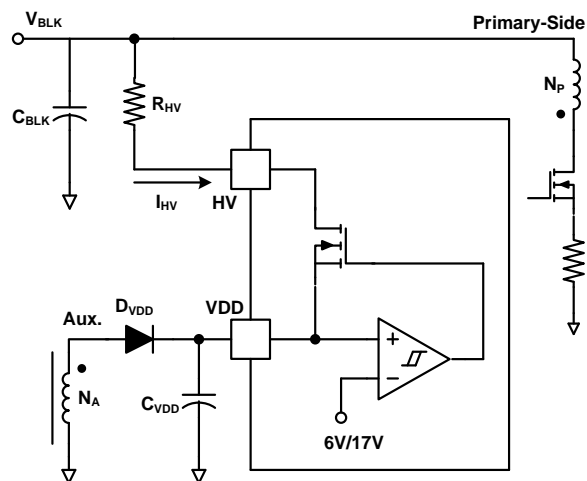
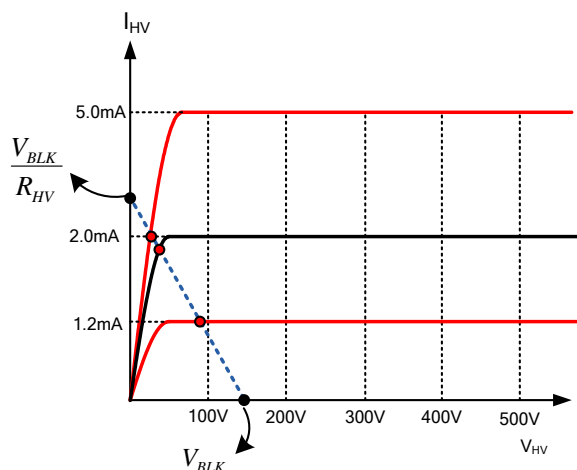

Figure 30. HV Startup Circuit
Figure 31. V-I Characteristic of HV Pin
Figure 30 shows the high-voltage (HV) startup circuit for FAN501A applications. The JFET is used to internally implement the high-voltage current source (see Figure 31 for characteristics). Technically, the HV pin can be directly connected to voltage ( $V_{BLK}$ ) on an input bulk capacitor. To improve reliability and surge immunity, however, it is typical to use a  $\sim 100$  k $\Omega$  resistor between the HV pin and bulk capacitor voltage. The actual HV current with a given bulk capacitor voltage and startup resistor is determined by the intersection of V-I characteristics line and load line, as shown in Figure 31.